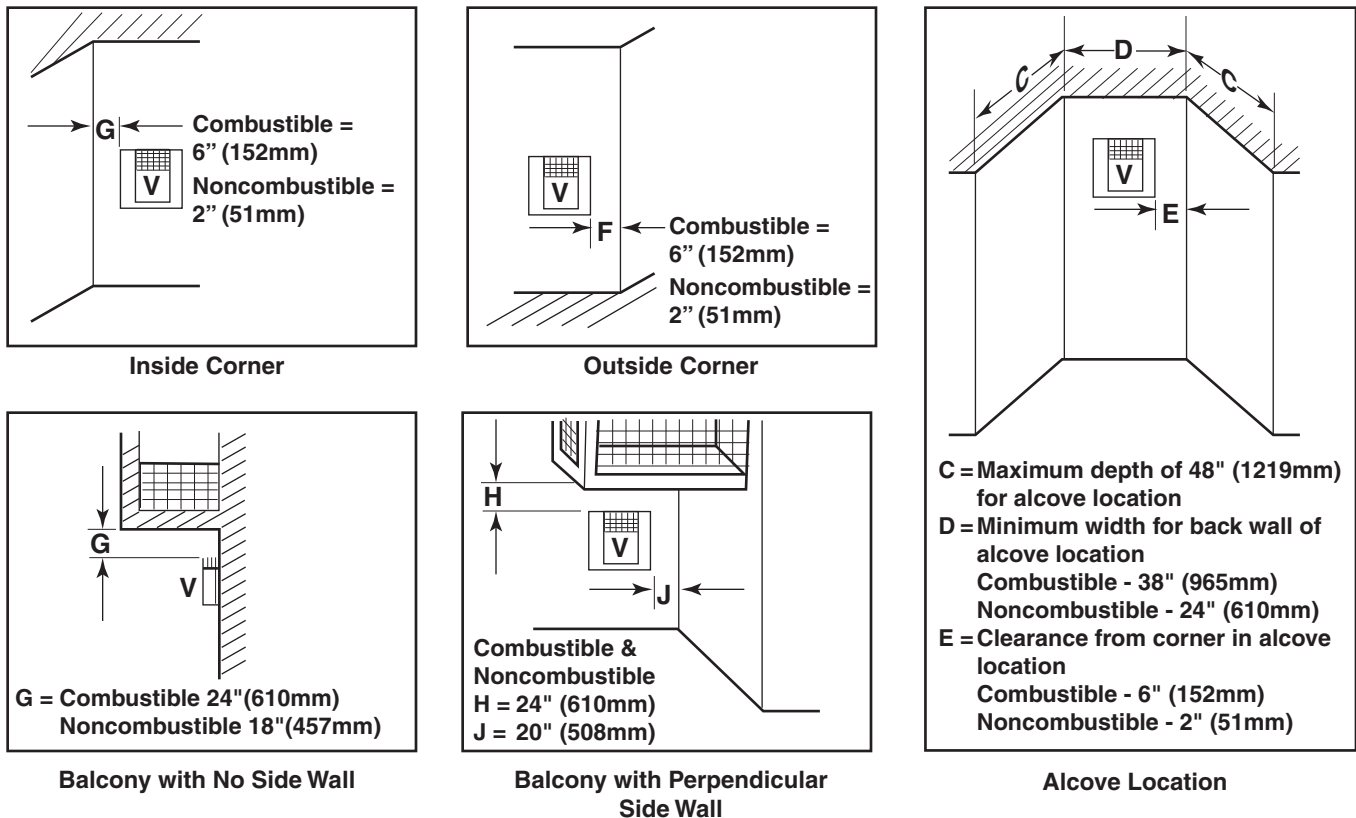

Figure 13 - Allowable Venting Chart
- D = Vertical clearance to ventilated soffit located above the terminal within a horizontal distance of two (2) feet (610mm) from the centerline of the terminal [18" (457mm) minimum].
- F = Clearance to an outside corner. *See Figure 13, page 17.*
- G = Clearance to an inside corner. *See Figure 13, page 17.*
- H = *Not to be installed above a gas meter/regulator assembly within three (3) feet (914mm) horizontally from the centerline of the regulator.
- M = Clearance under veranda, porch, deck, or balcony. ***See Figure 13, page 17.*** [For Canada *12" (305mm) minimum***].